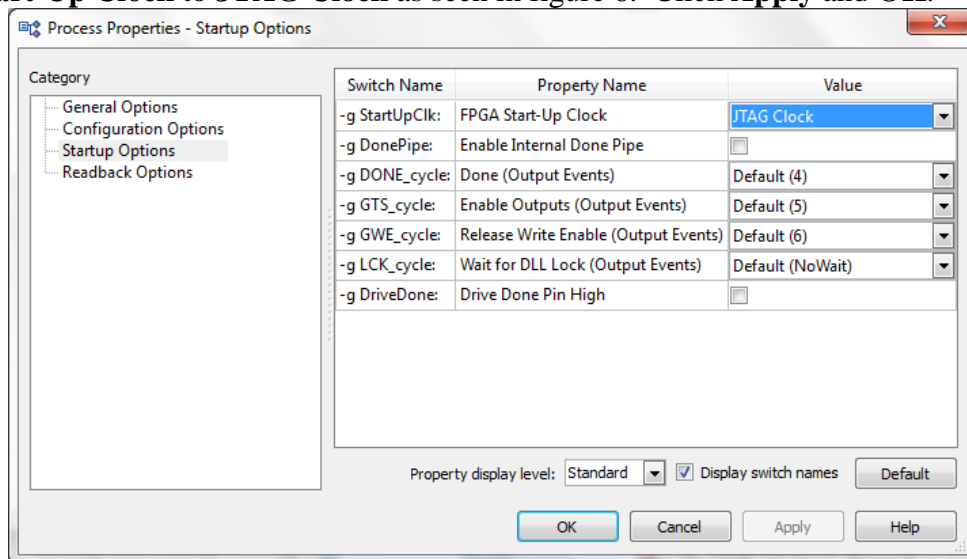

Figure 6: Setting the JTAG Clock
Step 12: The clock needs to be set before generating the final bit file. Right click on **Generate Programming File** and select **Process Properties**. Select **Startup Options** and change the **FPGA-Start-Up Clock** to **JTAG Clock** as seen in figure 6. Click **Apply** and **OK**.